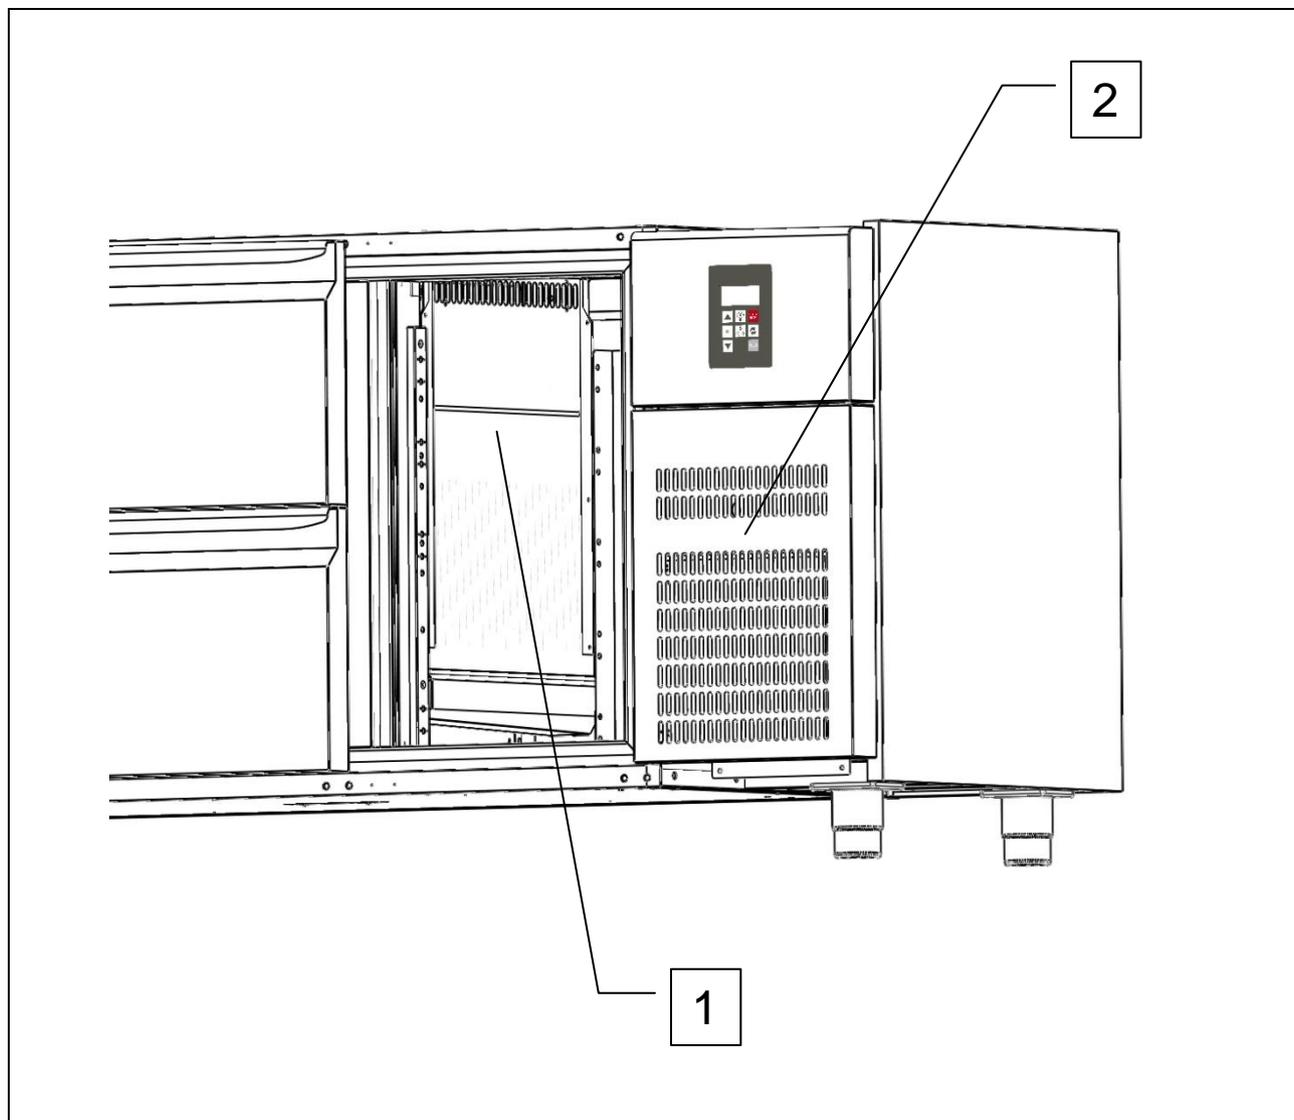

Fig. 5
- internal stainless steel (TH) or alloy (TG) wall covering the evaporator and the internal fans (ref. 1, fig.5);
- front panel covering the capacitor fan (ref. 2, fig. 5).